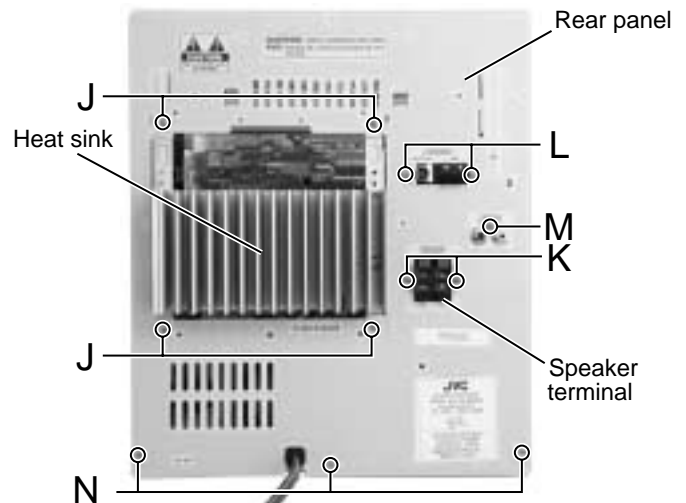

Fig.12
■ Removing the tuner board (See Fig.12 and 13)
■ Removing the rear panel (See Fig.12)